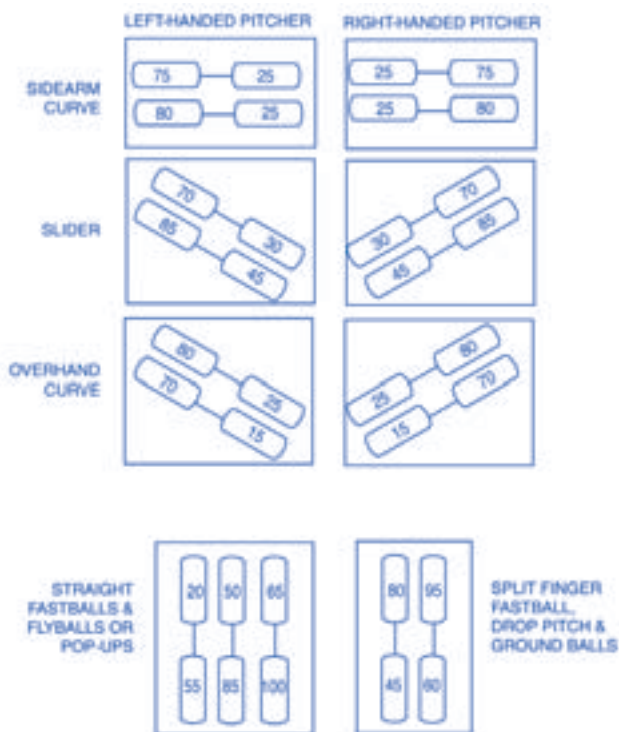

Figure 7
2. To throw straight fastballs, you must set speed dials 35 digits apart, as shown in Figure 7. For faster straight balls, turn both speed dials up the same amount. For slower straight balls, turn both down the same amount. Always keep the dials 35 digits apart.
Use the following diagrams shown below in Figure 7 as guides for using the JUGS Combo pitching machine. Each diagram shows the approximate tilt of the wheels. Numbers represent the speed dial settings.